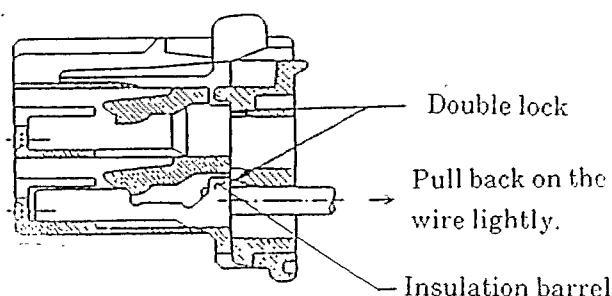

Fig. 4 When double lock is completed
- (1) A double lock ratchet is used to reinforce contact support. The insulation barrel is supported at the retainer type double lock area. See Fig. 4.
Make sure it is locked by lightly pulling the wire outward. The conditions shown in Figs. 4 and 5 will be seen if the retainer behaves correctly.